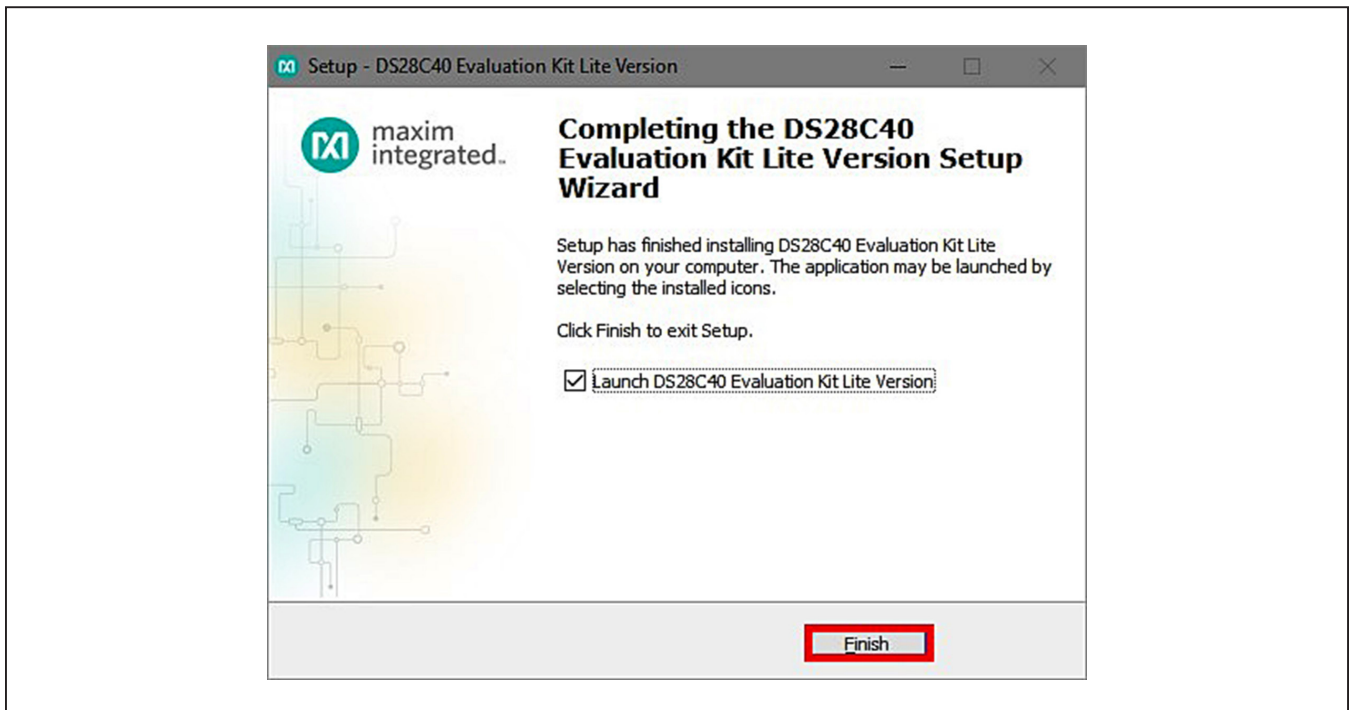

Figure 11. Software Installation Finished
11) Click on **Finish** (Figure 11) to close the final window confirming the software was installed correctly.